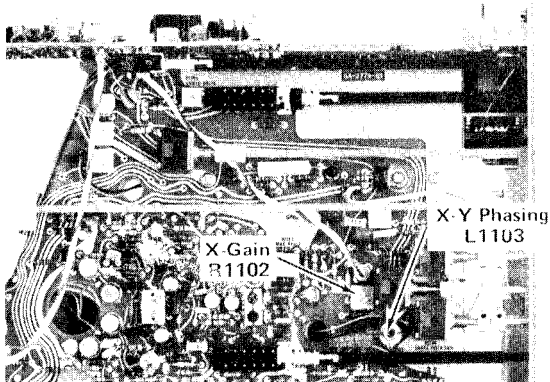

Fig. 5-31. Location of X Gain and X-Y Phasing adjustments.
d. ADJUST-X-Gain adjustment, R1102 (see Fig. 5-31) for exactly four divisions of deflection between the two dots displayed on the CRT.
h. ADJUST-L1103 (see Fig. 5-31), for maximum closing of the display.